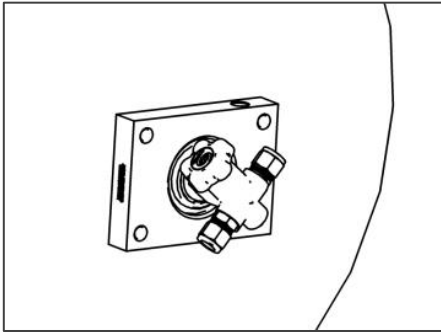

Figure 3 Cylinder manual shutoff valves are mounted on one end of each fuel cylinder.
Refer to the text and Figures 3 through 6. To depressurize the system, perform the following steps.
2. Locate and close all cylinder shutoff valves (turn handle fully clockwise), see Figure 3.